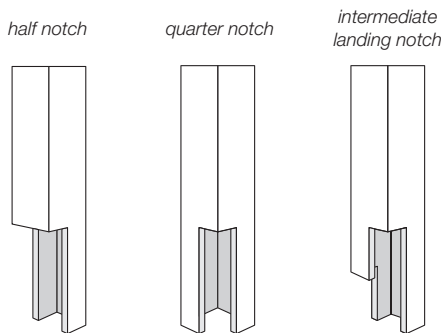

figure 7
2. If required, notch the newel post to accept the first step or balcony (knee wall applications may not require notching) (figure 7). As in step 1, pre-score all cut lines with a razor knife and use a sharp saw blade to minimize tearout.